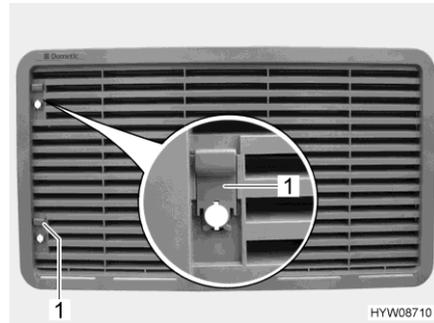

Fig. 186 Refrigerator ventilation grill
- Push sliding trap (Fig. 186,1) upward.